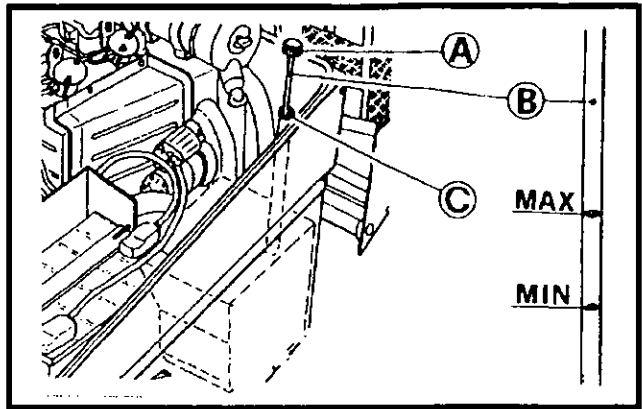

Figure 4-3 Hydraulic Oil Dipstick
8. Check hydraulic oil tank for oil level using the dipstick ('B', Figure 4-3). The oil level should be between the MAX. and MIN. marks. If necessary, add fresh, clean, anti-wear hydraulic oil through the oil filler tube  ('C', Figure 4-3). Refer to Section 8 - Fuel and Lubricant Specifications.